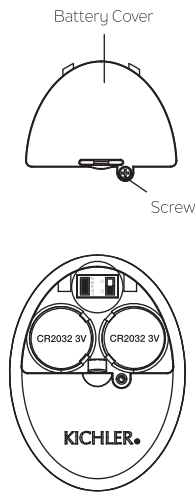

Fig. 28
Step 1. Install 2,3 volt # 2032 battery included with the CoolTouch™ Control system and make sure they are seated correctly in each recess with the Positive + Sign facing up. Replace the battery cover and tighten with screwdriver . (Fig. 28)
Step 2. Test the transmitter by pushing and releasing ANY button. A Blue Light should illuminate, if not, check to make sure the batteries are inserted and seated correctly. (Fig. 28)